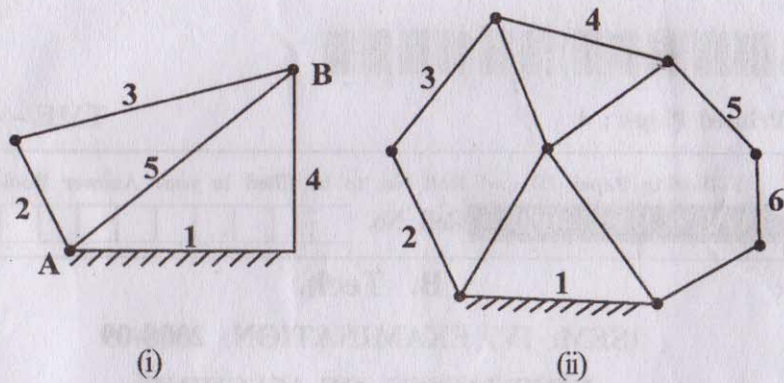

Fig.1.
- (e) Determine the mobility of the devices shown in Fig.1. 5